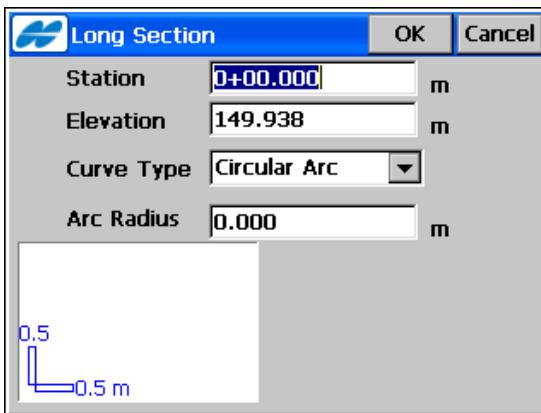

Figure 7-22. Long Section
- **Insert** – opens a blank *Long Section* screen in which to insert an element at the selected location in the list (Figure 7-22).
- **Add** – opens a blank *Long Section* screen for adding an element to the end of the list (Figure 7-22).
The **Long Section** screen (Figure 7-22) adds a new long section to the vertical alignment.